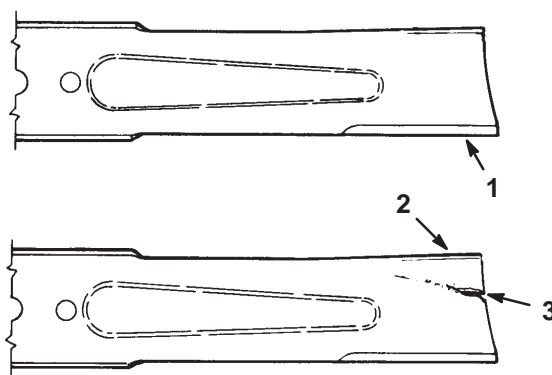

Figure 40
1. Inspect the cutting edges (Fig 40). If the edges are not sharp or have nicks, remove and sharpen the blades. Refer to Sharpening the Blades on page 31.
2. Inspect the blades, especially the curved area (Fig. 40). If you notice any damage, wear, or a slot forming in this area (item 3 in Fig. 40), immediately install a new blade.